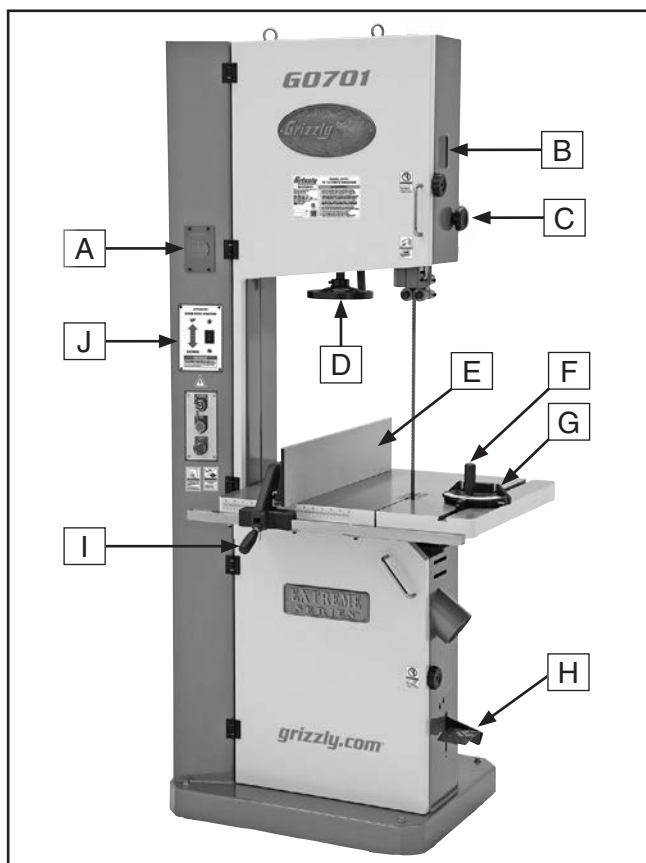

Figure 1. Front controls.
- E. **Fence:** Used for ripping or resawing. Distance from blade determines width of cut. Can be used in vertical position (as shown in **Figure 1**) for normal workpieces, or in horizontal position for thin workpieces.